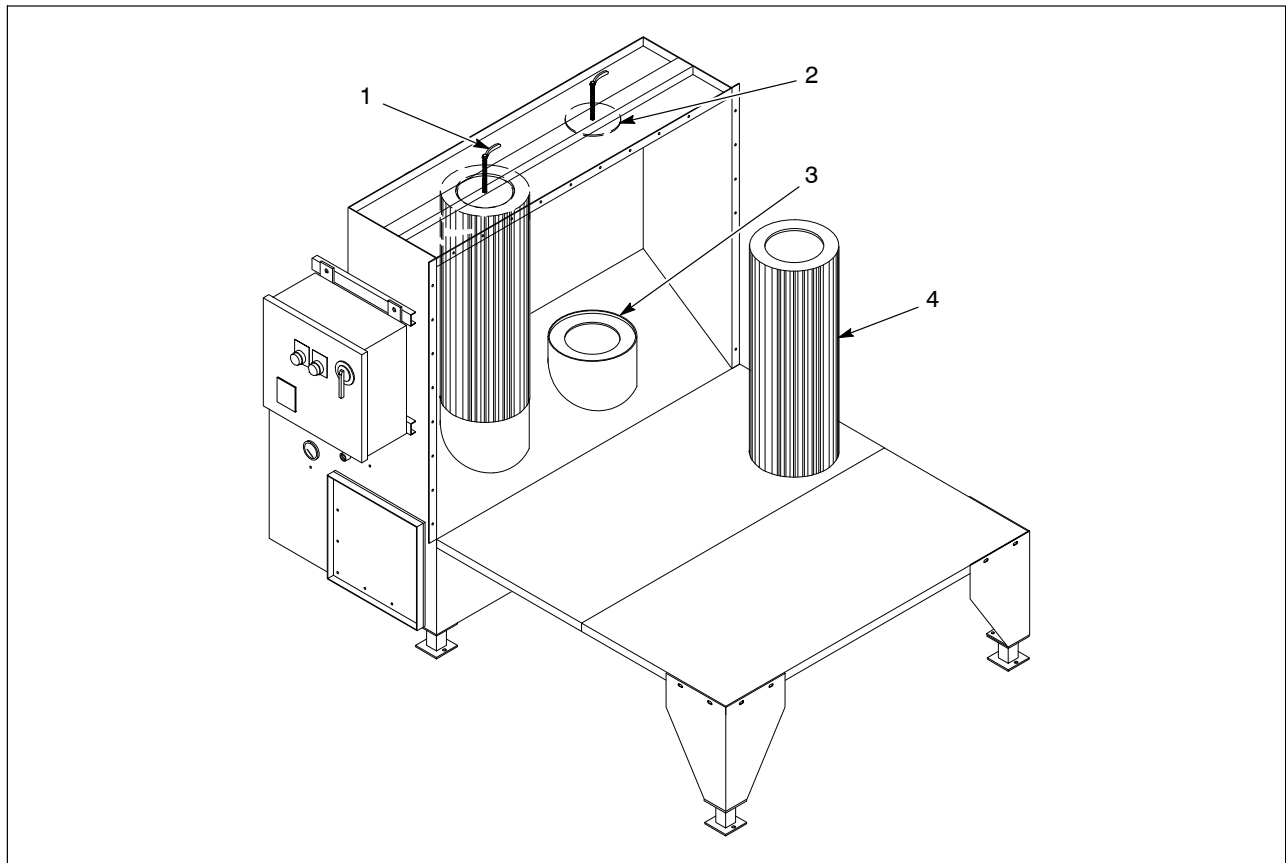

Figure 3-6 Cartridge Filter Installation
1. See Figure 3-6. Remove the cartridge filters (4) from their boxes. Inspect the filter media and gaskets. Do not use damaged filters.
2. Turn the push-plate handles (1) on top of the collector module counterclockwise until the push-plates are retracted up against the ceiling of the module.
3. Install the cartridge filters, gasket end down, into the filter retainers (3) in the collector module.